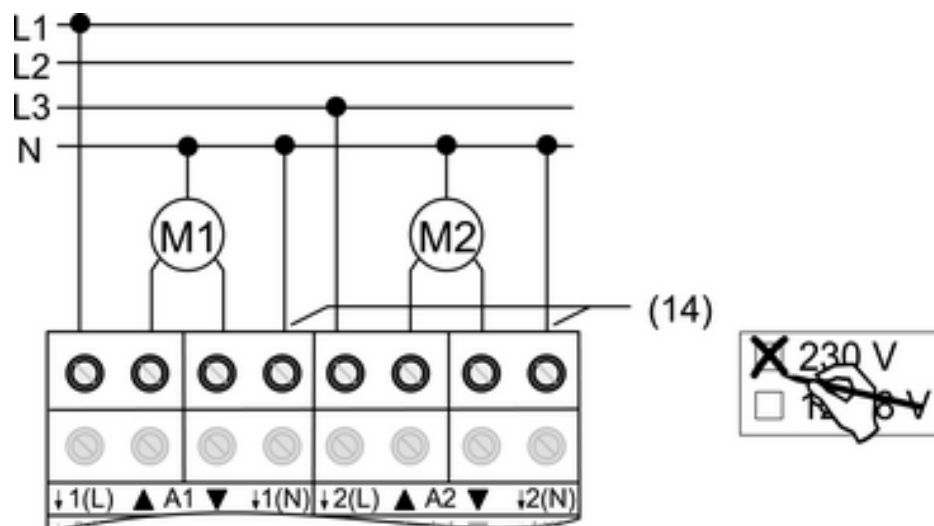

Figure 5
- Connecting the motor (Figure 5).
- Connect the N conductor of the corresponding motor to the N conductor terminals (14) (Figure 5). Note RCCB wiring.
- Mark **230 V** use on label (Figure 5).
The associated N conductors are connected for the outputs in question (Figure 5).